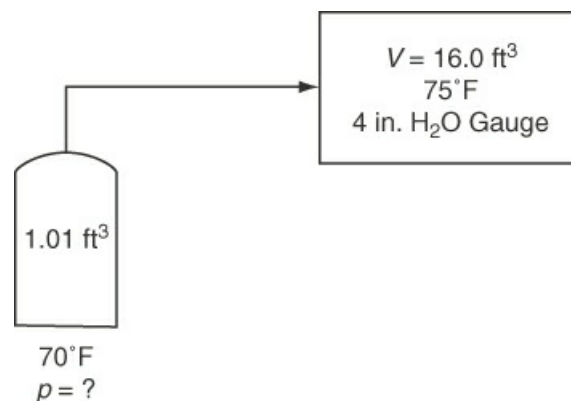

Figure P6.1.7
- **6.1.7 An oxygen cylinder used as a standby source of oxygen contains O_2 at 70°F . To calibrate the gauge on the O_2 cylinder, which has a volume of 1.01 ft^3 , all of the oxygen, initially at 70°F , is released into an evacuated tank of known volume (15.0 ft^3). At equilibrium, the gas pressure was measured as 4 in. H_2O gauge and the gas temperature in both cylinders was 75°F . See Figure P6.1.7. The barometer read 29.99 in. Hg. What did the pressure gauge on the oxygen tank initially read in psig if it was a Bourdon gauge?